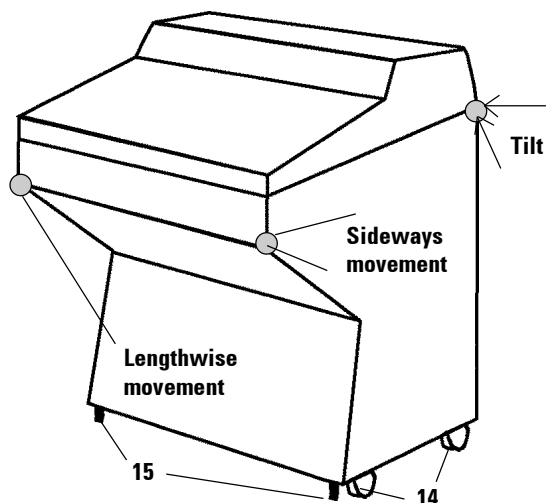

Fig. 16
- Move the instrument to the installation site on its wheels (**14**). Please note the areas which are reinforced for transporting and grip the cabinet only at these locations (**Fig. 16**).